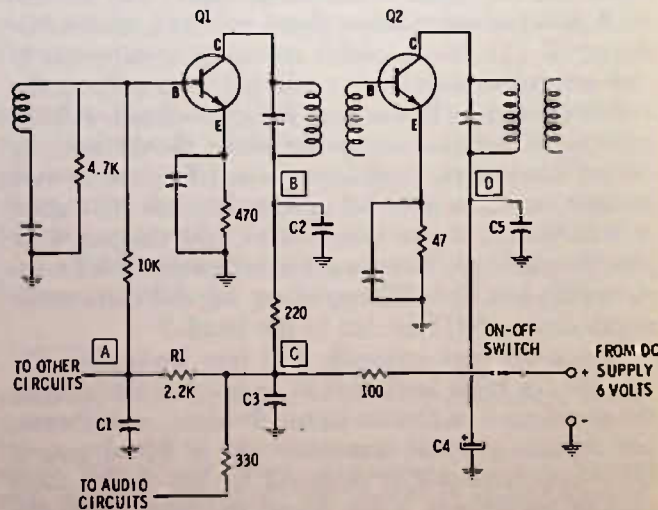

Fig. 15-9. Circuit for Questions 3 through 10.
3. In Fig. 15-9, with the radio turned on, you find that you have no voltage at point C. Without further checking, you could be sure that
4. In Fig. 15-9, with the radio turned off, you measure with an ohmmeter and find that at point B there is about 250 ohms resistance to ground. Reversing the ohmmeter leads and taking another reading shows still approximately 250 ohms resistance. The next step you should take in checking for this too-low resistance on the supply line is to
5. In Fig. 15-9, with the switch turned off, you measure about 60 ohms from point D to ground. The trouble could be
8. In Fig. 15-9, with the switch on and reading the voltages with a meter, you find 6 volts at the collector of Q2, 5.7 volts at point C, and zero volts at point A. The voltage reading you should get at the collector of Q1 is
10. In Fig. 15-9, if you measured from the collector of Q1 to ground and read 560 ohms, and from point B to ground and read 566 ohms, you should look for the trouble, if, indeed, there is trouble,